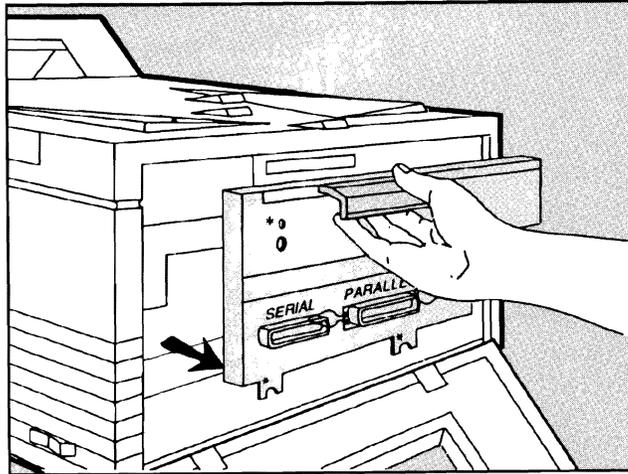

Figure F-4. Removing the Interface Plate
7. Pull the interface plate out toward you and downward (see figure F-4).
11. Replace the interface plate by putting the tabs into the slots and rotating the plate into its upright position. Be sure the plate pin connector is **firmly** seated by pushing in on the green handle (see figure F-4).